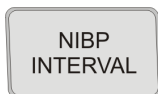

Figure 1-4. The Middle Keypad Set
- c. **The Middle Keypad Set.** (See Figure 1-4) The middle keypad set contains six push keys. The three on the left provide control of the NIBP monitoring feature with two of the keys (**NIBP START/STOP** and **NIBP STAT**) providing direct control of NIBP measurements and the third (**NIBP INTERVAL**) bringing up a menu that allows adjustment of the NIBP auto mode interval feature. On the right side of this set are two keys which control the Trending feature of the monitor (**TRENDS** and **CLEAR TRENDS**) while a third (**RECORD**) provides a hardcopy printout of selected parameters as specified by operator adjustments in the **RECORDER** Menu. The six push keys are described below: